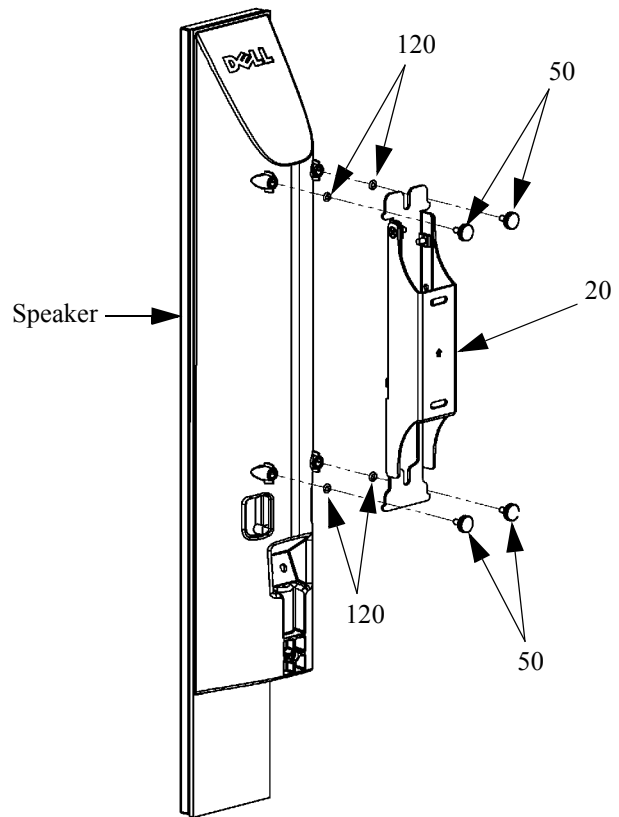

Figure 13. Install Speaker Using Four Thumb Screws
**NOTE:** Make sure to install an O-ring (120) between the speaker and wall bracket (20). The thumb screws (50) hold the speaker in place.
1. Install four thumb screws (60) into the threaded holes on the speaker. Do not tighten the thumb screws at this point. (see Figure 13).
3. Place the speaker on the wall bracket (20), making sure each thumb screw is seated under the four curved slots on the bracket.
4. Finger tighten the four thumb screws (60) to hold the speaker in place.